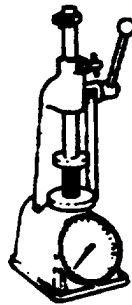

FIGURE 3-72. Valve Spring Tension
- (1) Install spring in spring tester, refer to FIGURE 3-72. Compress innerspring to 1.46 in. (37.0 mm) or outer spring to 1.54 in. (39.0 mm).
- (2) Standard pressure to compress inner spring is 12.21 to 13.78 lbs (5.55 to 6.25 kg), with a limit of 11.03 lbs (5.0 kg). Standard pressure to compress outer spring is 43.33 to 48.84 lbs (19.65 to 22.15 kg). with a limit of 39.69 lbs (18.0 kg)
- (3) If pressure required to compress spring is less than limit, replace spring.